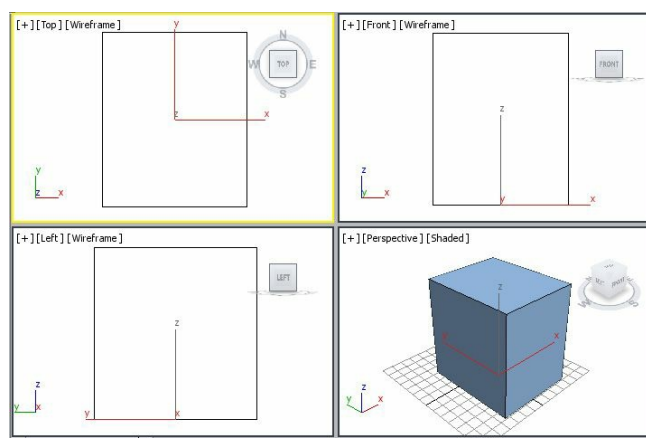

Figure 2-48 The box displayed in viewports
4. Choose the **Zoom Extents All** tool from the viewport navigation controls to view  the box; the box is displayed in all viewports, as shown in Figure 2-48.